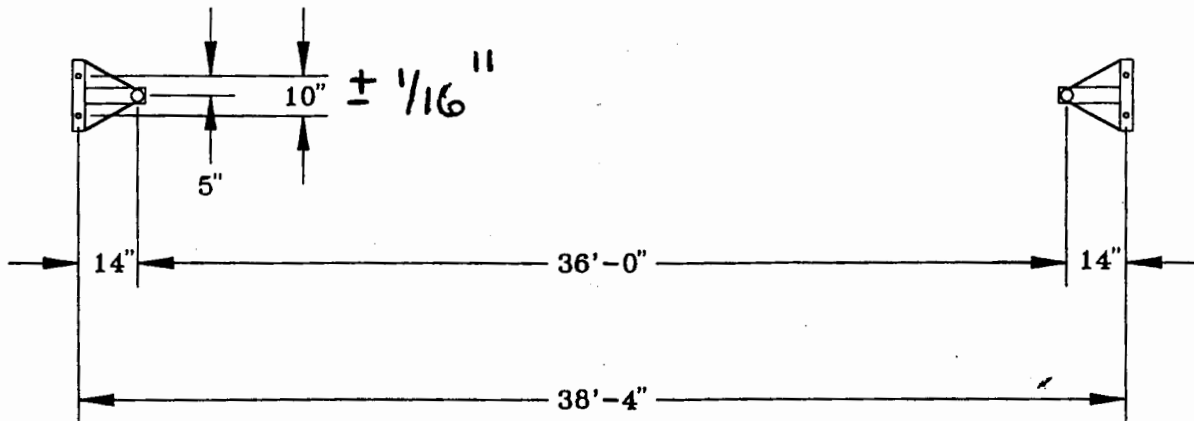

FIGURE 2
3. FIGURE 2 ON THE NEXT PAGE DEPICTS THE FLOOR PLATE LOCATIONS FOR A SINGLE COURT. INSTALL FLOOR PLATES FOR THE CENTER AND END T-BASES AT THE LOCATIONS SHOWN IN FIGURE 2.